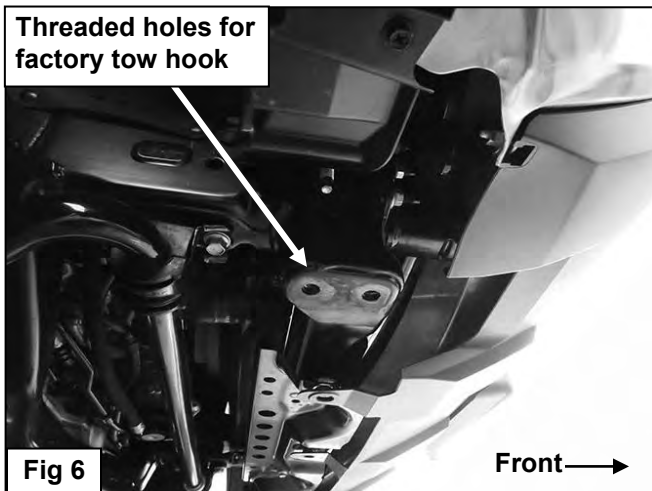

Fig 6
8. From under the front of the vehicle, remove the (2) factory tow hooks and set aside, **(Figures 6 & 7)**. Select the passenger side Frame Mounting Bracket, **(Figure 8A)**.